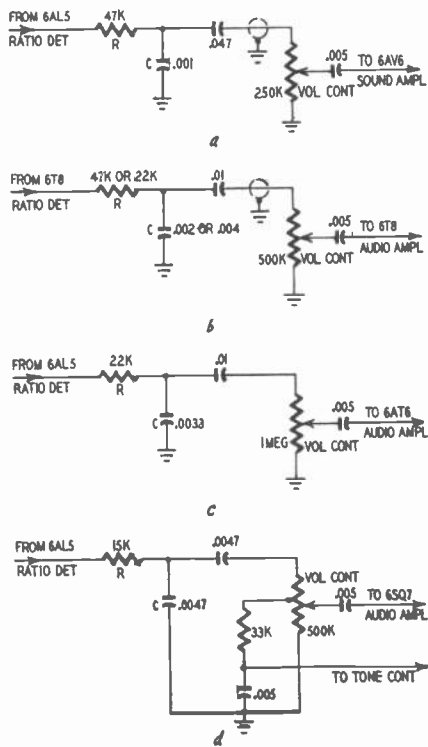

Fig. 3-R. Typical de-emphasis networks.
**SERVICE:** Most often caused by low B+ such as weak low-voltage rectifier tube or selenium rectifier. If replacing B+ electrolytics does not help, then the high voltage may be too high. This condition can be caused by a gassy horizontal-output tube (most 6BG6-G tubes are slightly gassy) which may be recognized by the small blue glow inside the tube. This is perfectly satisfactory and is troublesome only when gassiness is excessive. The best check is by tube substitution. A gassy horizontal-output tube, combined with above normal horizontal drive, will result in excessive high voltage. Also check damper tube. (See Fig. 3-H on page 76.)
Check for open resistors and coils; or shorted, leaky, and open capacitors, especially the parallel resistor-capacitor combination in the unbalanced circuit of the ratio detector; and the parallel series resistor-capacitor combination in the balanced circuit. When a strong hiss is present check the de-emphasis network. See Fig. 3-R.